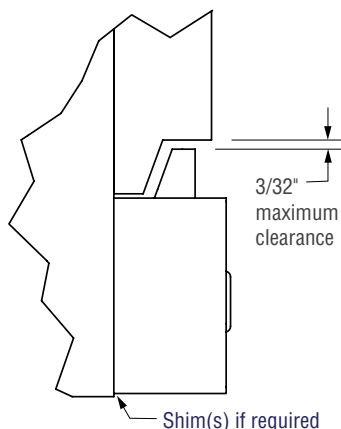

Figure 3-3, Lower Hook Clearance
10. Install the bolt-on lower hooks. Inspect clearance to the carriage on lower hooks. Adjust the lower hooks for a maximum clearance of **3/32"** (see Figure 3-3). Tighten the bolts to **40-50 ft-lbs.**